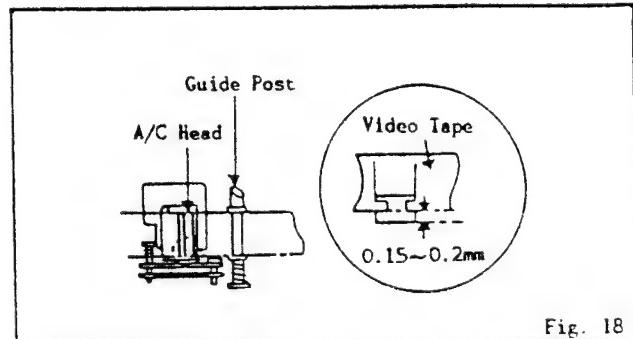

Fig. 18
- Confirm that height and tilt of A/C Head against tape are as per Fig. 18.
- Height of A/C Head against tape should be as per Fig. 18.